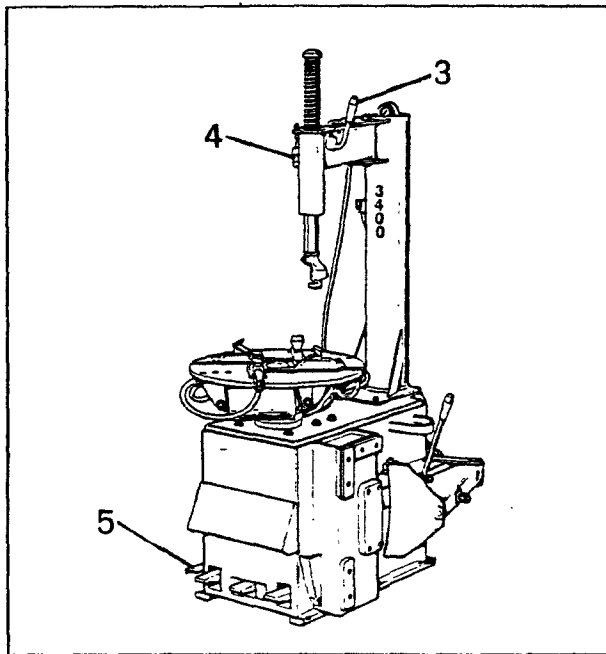

Fig.7
D. Lower the lock handle (#4 Fig.7) to unlock the vertical slide, lift the handle to lock.
E. Turn adjustment knob (#4 Fig.7) for positioning mount/demount head to rim diameter.
F. Press bead-seater pedal on left side of the machine (#5 Fig.7) half way down: air will come out from inflation hose end.